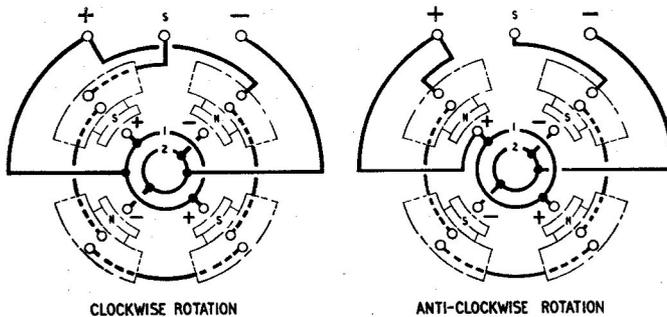

Fig. 4. Diagram of internal connections (looking on commutator end)
3. Four brushes are set diametrically about the commutator; connections are brought out from them to the connecting rings which are mounted on, and insulated from, the end frame, and thence to the terminals. The arrangement is illustrated in *fig. 4*.